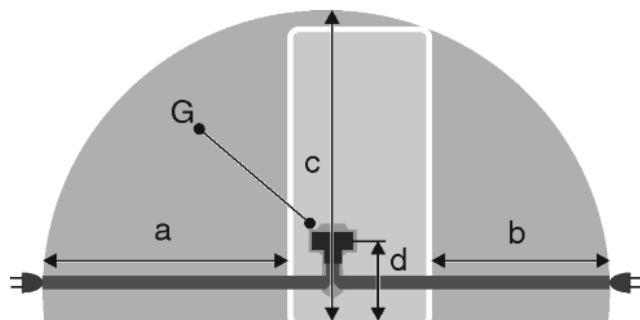

Fig. 27
- The socket is outside the back of the appliance area in the specified area Fig. 27 (a, b, c).
- ▶ Insert the appliance plug Fig. 27 (G) into the back of the appliance. Ensure that it clicks into place.